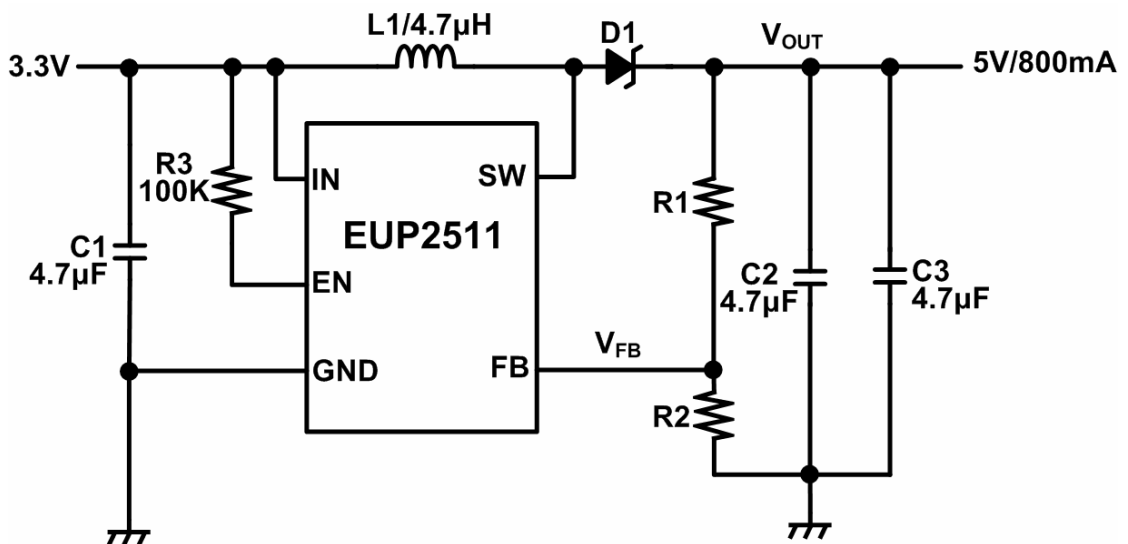

Figure1.
**Test Condition Figure 1.**
Test Condition Figure 1.